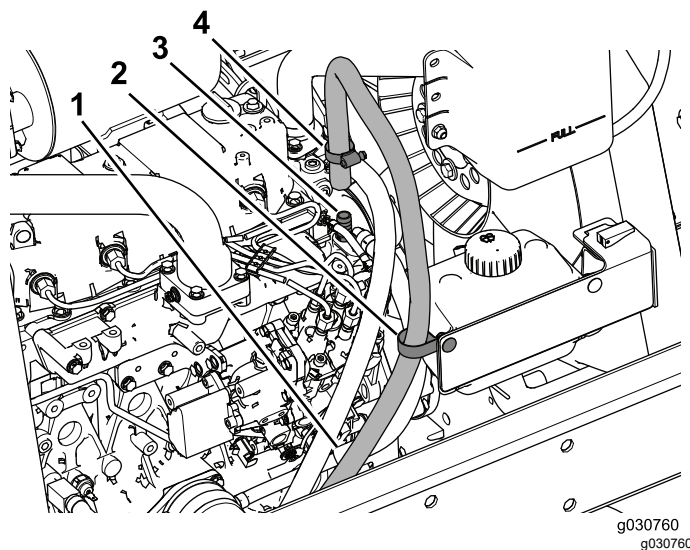

Figure 37
6. Slide the hose-clamp over the return hose and then insert the hose over the fitting (3/8 NPT x 0.625 barb) as shown in Figure 37.